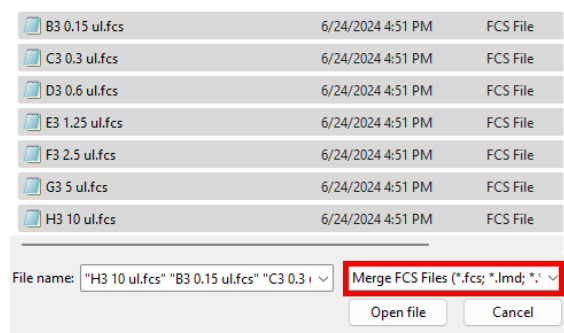

Figure 10 – Adding a Merged file
- Highlight all titration data files (use Shift key or Ctrl key to multiple select) (*Figure 10*)